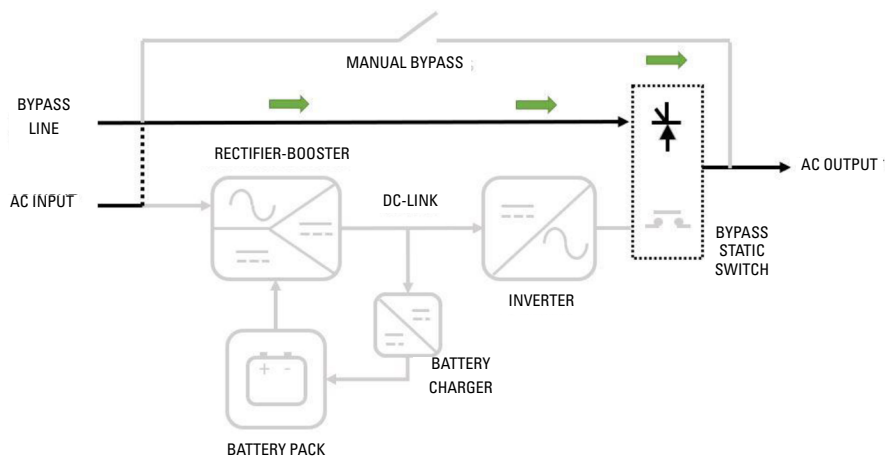

Fig. 14. UPS power flow stopped (but supplying the loads via the bypass).
2.  In UPS shutdown maneuvers, after it has been operating in normal mode, or after the initial start-up and forcing the transfer to static bypass on the display, **the UPS will supply the Bypass voltage to the Output (to the loads) even when completely stopped, if the input switch (or separate bypass switch if applicable) and the output switch are closed (to ON)**. In this situation, the Rectifier, Charger and Inverter will not be working. See *Fig. 14*.